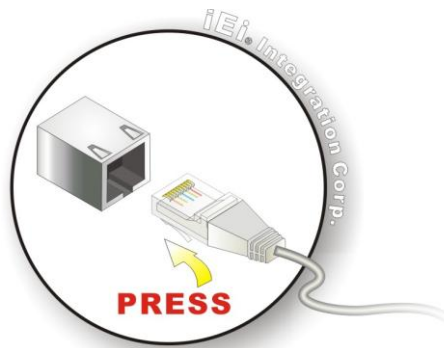

Figure 3-17: LAN Connection
Step 2: **Align the connectors.** Align the RJ-45 connector on the LAN cable with one of the RJ-45 connectors on the TANK-XM811 Series. **(See Figure 3-17)**.